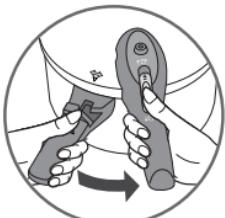

Fig 2
Hold the long pressure cooker handle (L) with your left hand, while turning the long lid handle (F) anti-clockwise with your right hand, until it opens - Fig 2. Then lift the lid off.